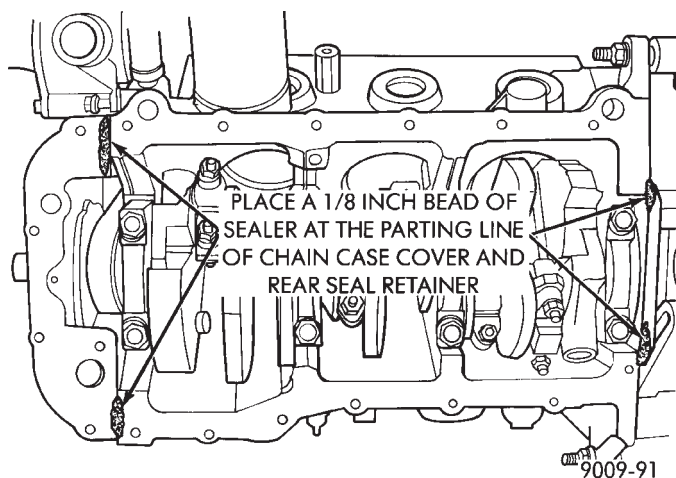

Fig. 3 Oil Pan Sealing
(2) Apply a 1/8 inch bead of Mopar Silicone Rubber Adhesive Sealant or equivalent, at the parting line of the chain case cover and the rear seal retainer (Fig. 3).